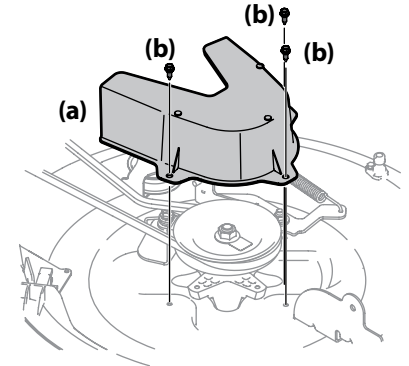
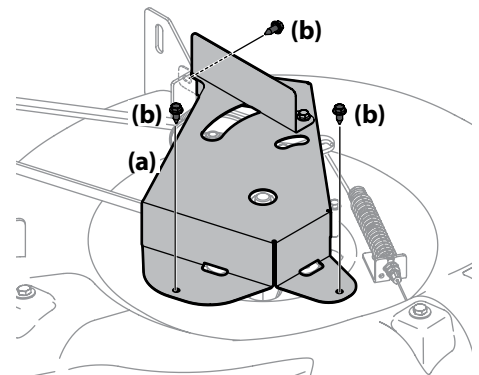

Figure 4-8
Figure 4-9
5. Remove the deck belt cover (a) by removing the three hex bolts (b) that secure it. See Figure 4-8 for 30" decks and Figure 4-9 for 24" decks.